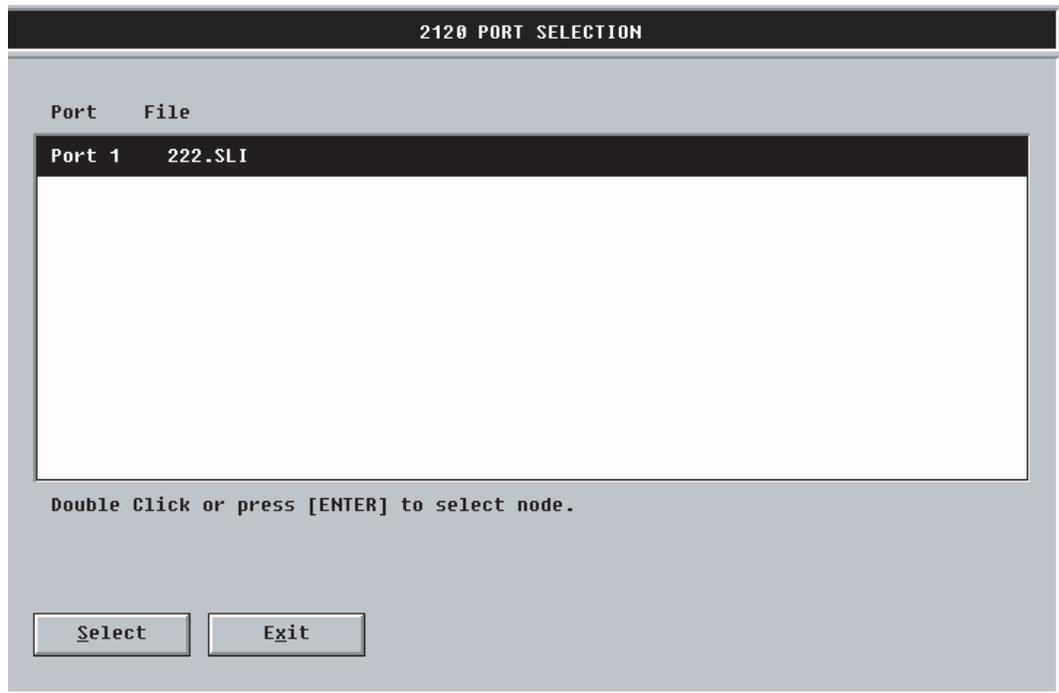

Figure 5-7 2120 Port Selection Screen
7. From the TSW Configurator screen, select the **Configure** menu and select the **Point Config** option. The system displays the **2120 Port Selection** dialog shown in Figure 5-7.